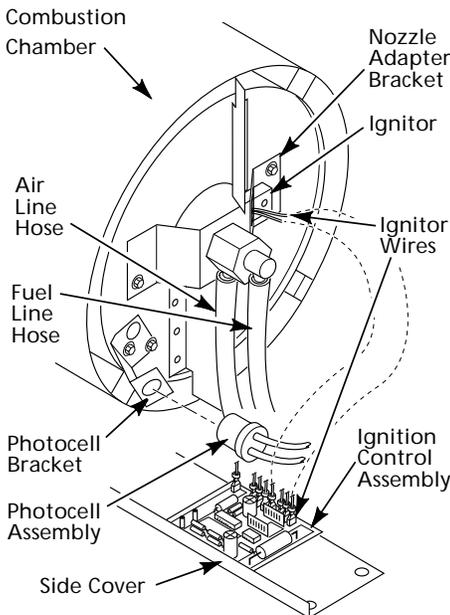

Figure 16 - Disconnecting Ignitor Wires from Ignition Control Assembly
4. Disconnect ignitor wires (yellow for 3E218E and 3E219D, gray for 2E510E and 2E511E) from ignition control assembly (See Figure 16). Pull the ignitor wires up through the hole in the lower shell.
5. Disconnect fuel line hose and air line hose. Remove photocell from photocell bracket (See Figure 16).